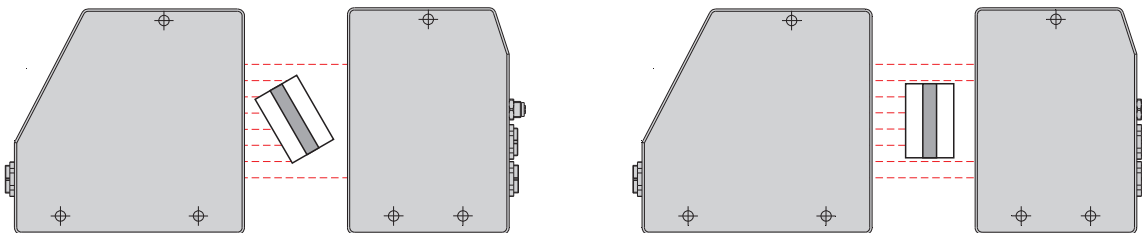

Fig. 3 Measurement inaccuracy at tilted targets
- ➡ Pay attention on the alignment of target for avoiding measurement inaccuracies, see Fig. 3.